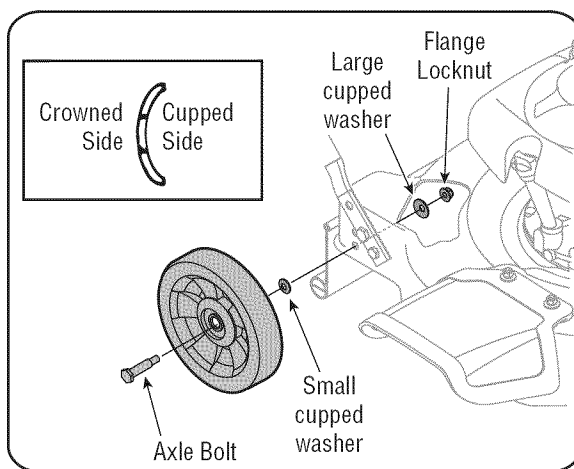

Figure 8
- Place axle bolt through the wheel with the hub side of the wheel facing the deck. See Figure 8.
- Place the small cupped washer on the axle bolt with the cupped side towards the deck. See Figure 8.